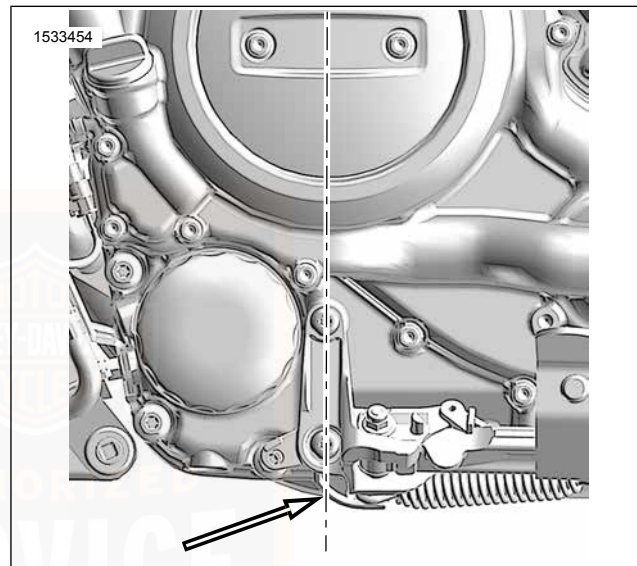

Figure 53. Crankshaft Centerline
- See Figure 53. When lifting motorcycle from underneath, always lift directly below crankshaft centerline with wood between motorcycle and lift.